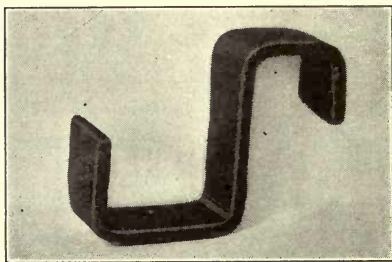

FIG. 29. SPRING SEAT HOOK.
4. It is not likely that corners C and D can be bent in the vise or over the anvil. If not, clamp a square piece of iron, one inch or less in width, in the vise. Now bend the corners C and D about this piece. Fig. 29 is a picture of the completed spring seat hook.